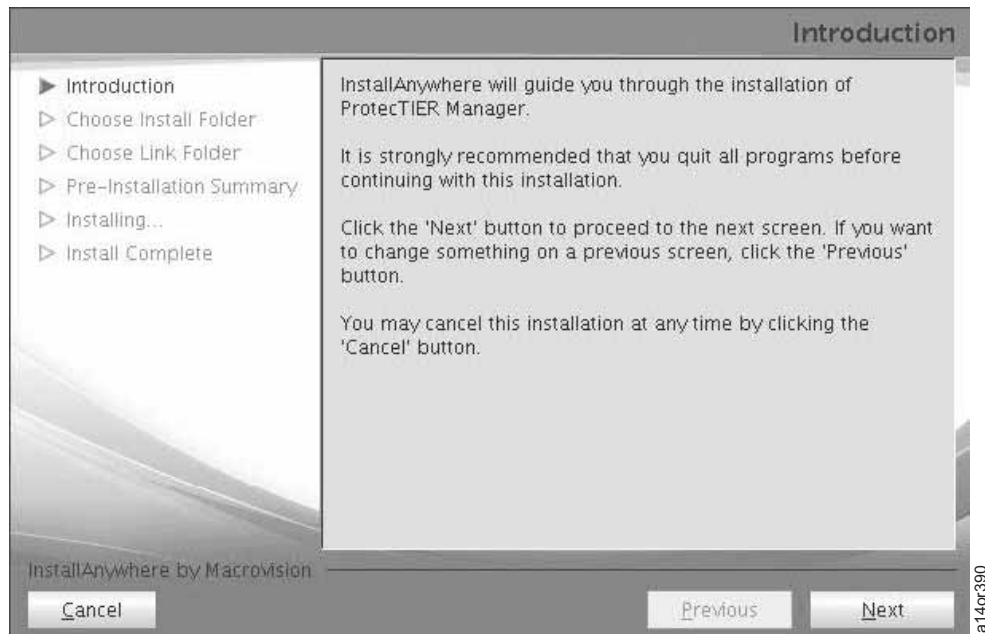

Figure 2-80. Introduction to ProtecTIER GUI Manager InstallAnywhere Screen
3. You see the Introduction screen in Figure 2-80 on page 2-55. Click **Next**.